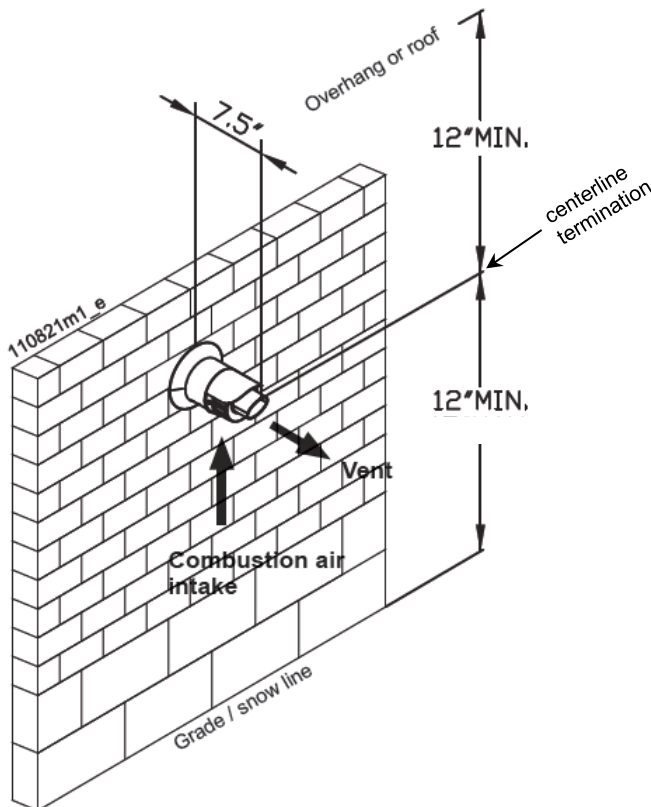

Figure 10.21
Description and usage: concentric combustion air and exhaust vent pipe termination. Both combustion air and exhaust vent pipes must attach to the termination kit. The termination kit must terminate outside the structure and must be installed as shown below in Figure 10.21. The required combustion vent pipe materials are listed in Table 10.4 of this manual.
|  NOTICE | Ensure termination location clearance dimensions are as shown in Figure 10.21. |
5. The exhaust piping must terminate in a vertical coupling as shown in Figure 10.21. The top of the coupling must be at least 1 foot above the air intake. When the vent termination uses a rain cap, maintain at least 36" (914 mm) above the air inlet. The air intake pipe and exhaust vent pipe can be located in any desired position on the roof, provided that the exhaust vent termination is at least 1 foot above the air intake.